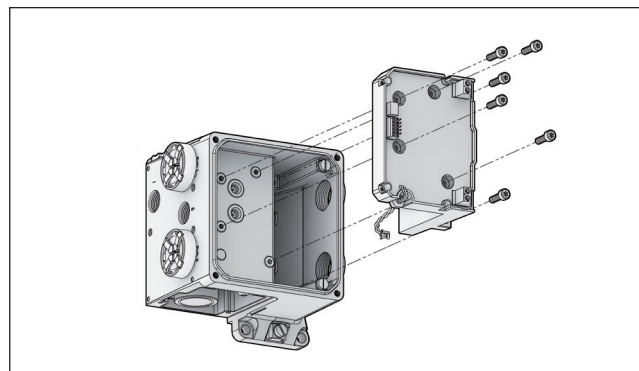
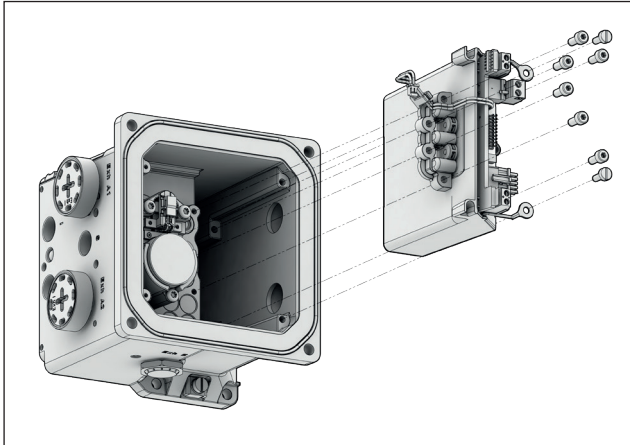

Fig. 102. NDX\_510\_
Fig. 103. NDX\_511\_ and NDX\_512\_
- Loosen the electronics module screws and grounding screws, then remove the electronics module. (Fig 102, Fig 103)